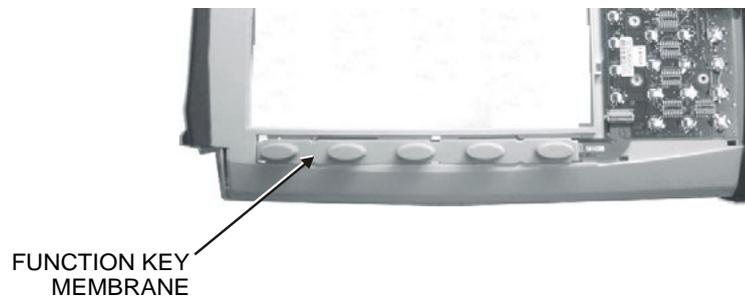

Figure 3-13. Function Key Membrane
4. Remove the function key membrane by gently pulling the membrane up and away from the front panel (Figure 3-13).